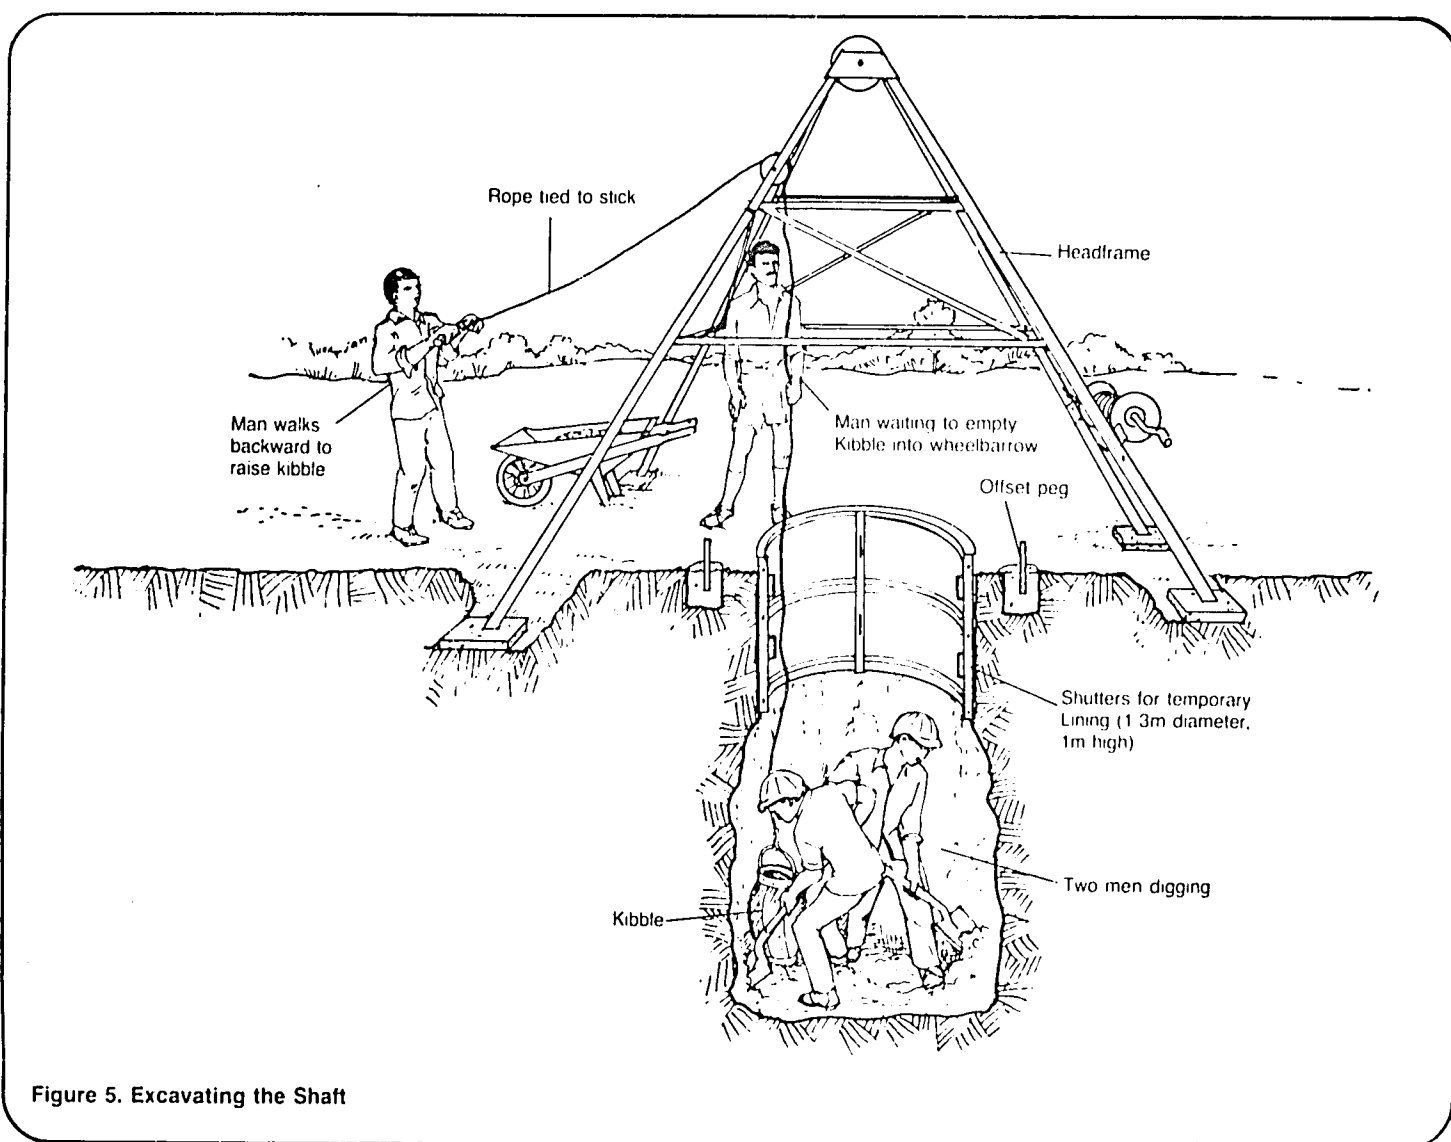

Figure 5. Excavating the Shaft
6. Mark a circle of 650mm radius around the center point. Carefully excavate within this circle to a depth of 0.9m. Position a set of steel shutters 1.3m in diameter and 1.0m high inside this hole with 100mm projecting above ground to act as a temporary lining. See Figure 5. Be certain that the shutters are exactly in place and that the top is level. Firmly tamp soil around the outside. These shutters will prevent the top of the shaft from crumbling, and they will reduce the risk of tools or materials being accidentally kicked into the shaft.
7. Begin excavating the first lift of the well. Normally, two workers using miner's picks and bars and short-handled shovels excavate the soil in layers about 100mm deep, and they keep the bottom of the excavation fairly level at all times. Soil is removed by hoisting it up in a kibble, as shown in Figure 5. The shaft is dug somewhat less than its finished diameter of 1.45m.